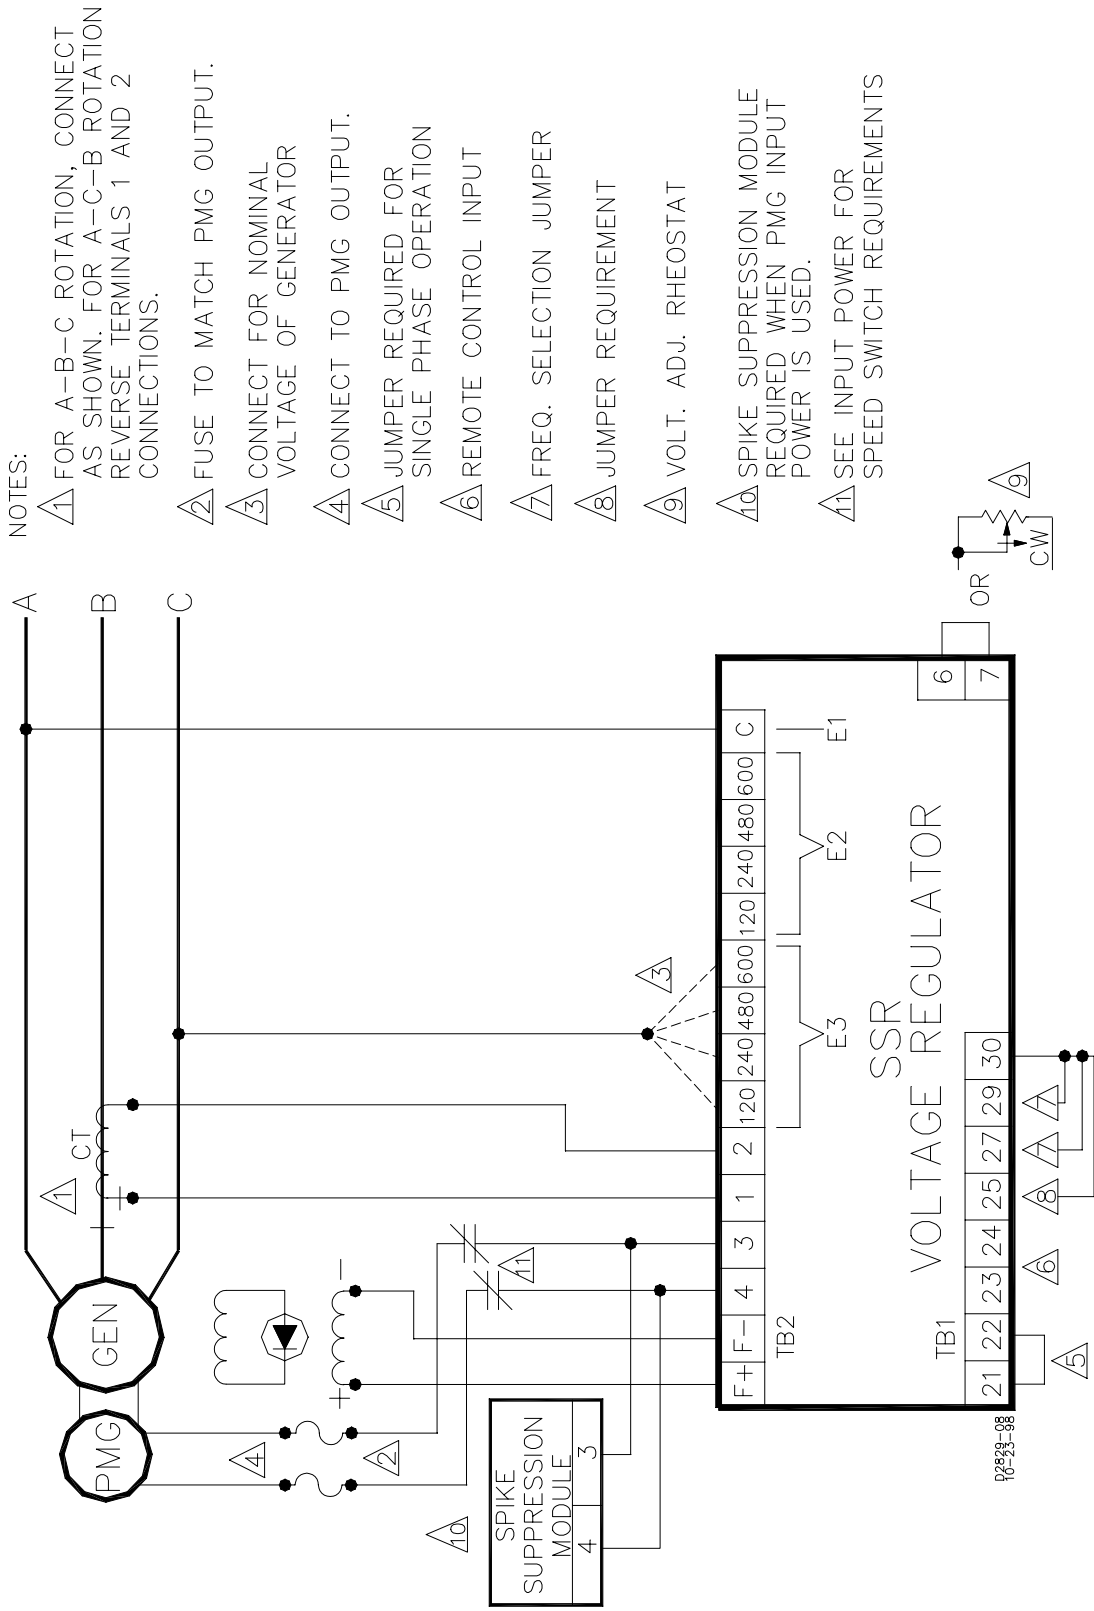

Figure 2-5. SSR Voltage Regulator Interconnection with PMG
- (3) If the field or field flashing circuit is grounded, a power transformer must be used to isolate the Regulator input from ground.
- (4) If the SSR is powered directly from a 50 Hz or 60 Hz generator output (as in Figures 2-3 and 2-4), install a jumper between terminals TB1-25 and TB1-30. If the SSR is powered from a special source, such as a PMG (as in Figure 2-5), the frequency of the incoming power must be considered. If this frequency is less than 120 Hz, install a jumper between terminals TB1-25 and TB1-30. If the input power frequency is between 120 Hz and 240 Hz, then remove any jumpers connecting terminals TB1-25 and TB1-30.